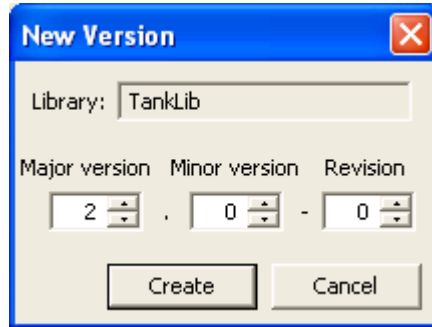

Figure 48. New Version dialog box
3. Click **New Version** button. A 'New Version' dialog box opens (Figure 48).